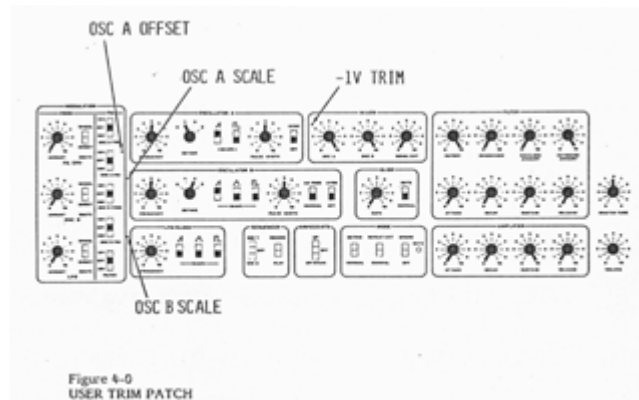

Fig 4-0
1. Patch according to Figure 4-0. Note trimmer names and locations.